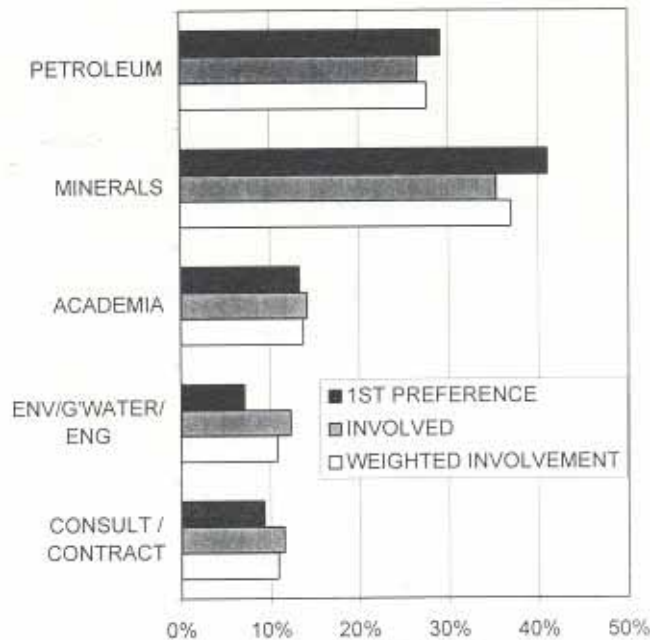

Figure1. ASEG Membership by Industry
**Membership:** ASEG membership breakdown by industry sector (Figure 1) shows a healthy mixture between petroleum (26-29%) minerals (35-41%), academia (13-14%), environmental/groundwater/engineering (7-12%) and consultants/contractors (9-12%). The society is not as strongly mineral oriented as some may have thought, however it is certainly more so than the SEG. The spread of percentage values depends on whether one considers first preference, involvement of any kind, or weighting by preferences indicated.